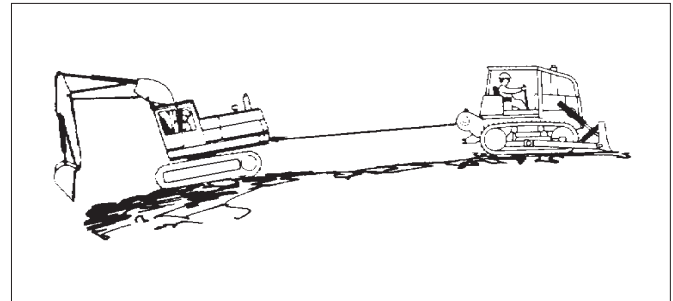

Figure 20 Moving a Disabled Vehicle (Step B)
B. A dozer or skidder equipped with a winch can be used to pull another vehicle from mud or other areas where it cannot move using only the drive wheels or tracks. See Figure 20. Use the following procedure: